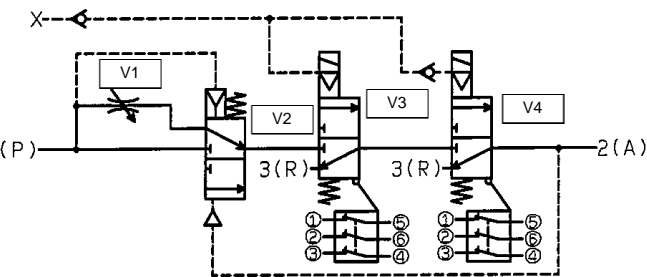
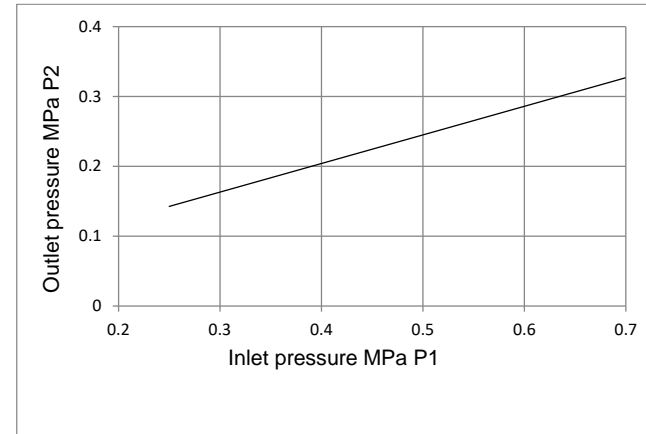

Figure 9. External pilot (Rockwell switch variant shown for reference)
Figure 10. Switching pressure (Close → Open) of soft start-up valve V2
- In a safety related application, the machine safety system will energise the safety valves (V3 and V4 in Figure 9) when the machine is safe to operate. When both valves are energised air will flow into the protected system via port 2 (A). The flow is initially limited by needle valve V1 and pressure in the protected system will remain low as the system fills or actuators move slowly. The pressure will eventually rise as the system becomes full or the actuators stop moving. As P2 pressure increases (see Figure 10) valve V2 switches and valve V1 is by-passed. In this condition air will flow into the protected system according to the figures given in section 2.3.
- When either of the valves V3 or V4 are de-energised the protected system is vented to atmosphere. When the protected system pressure drops below P2 (see Figure 10) valve V2 returns to its spring returned state with V1 limiting the flow to V3 and V4.